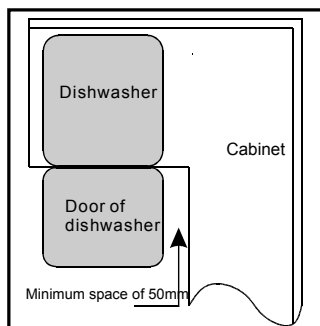

FIGURE 2
2. If dishwasher is installed at the corner of the cabinet, there should be some space (illustrated in figure 2) when the door is opened.